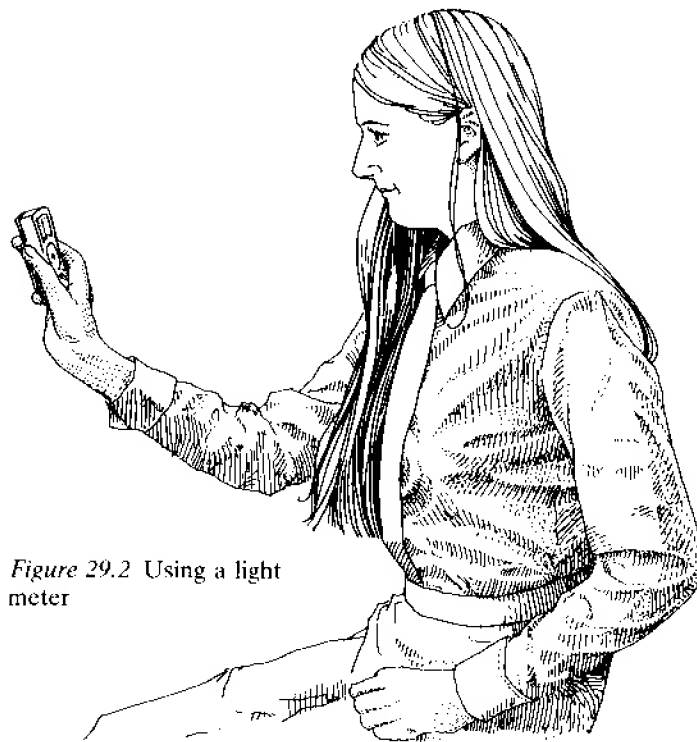

Figure 29.2 Using a light meter
1. Set up a 100 watt mains bulb and point a light meter (used for photography) at it (see Figure 29.2).